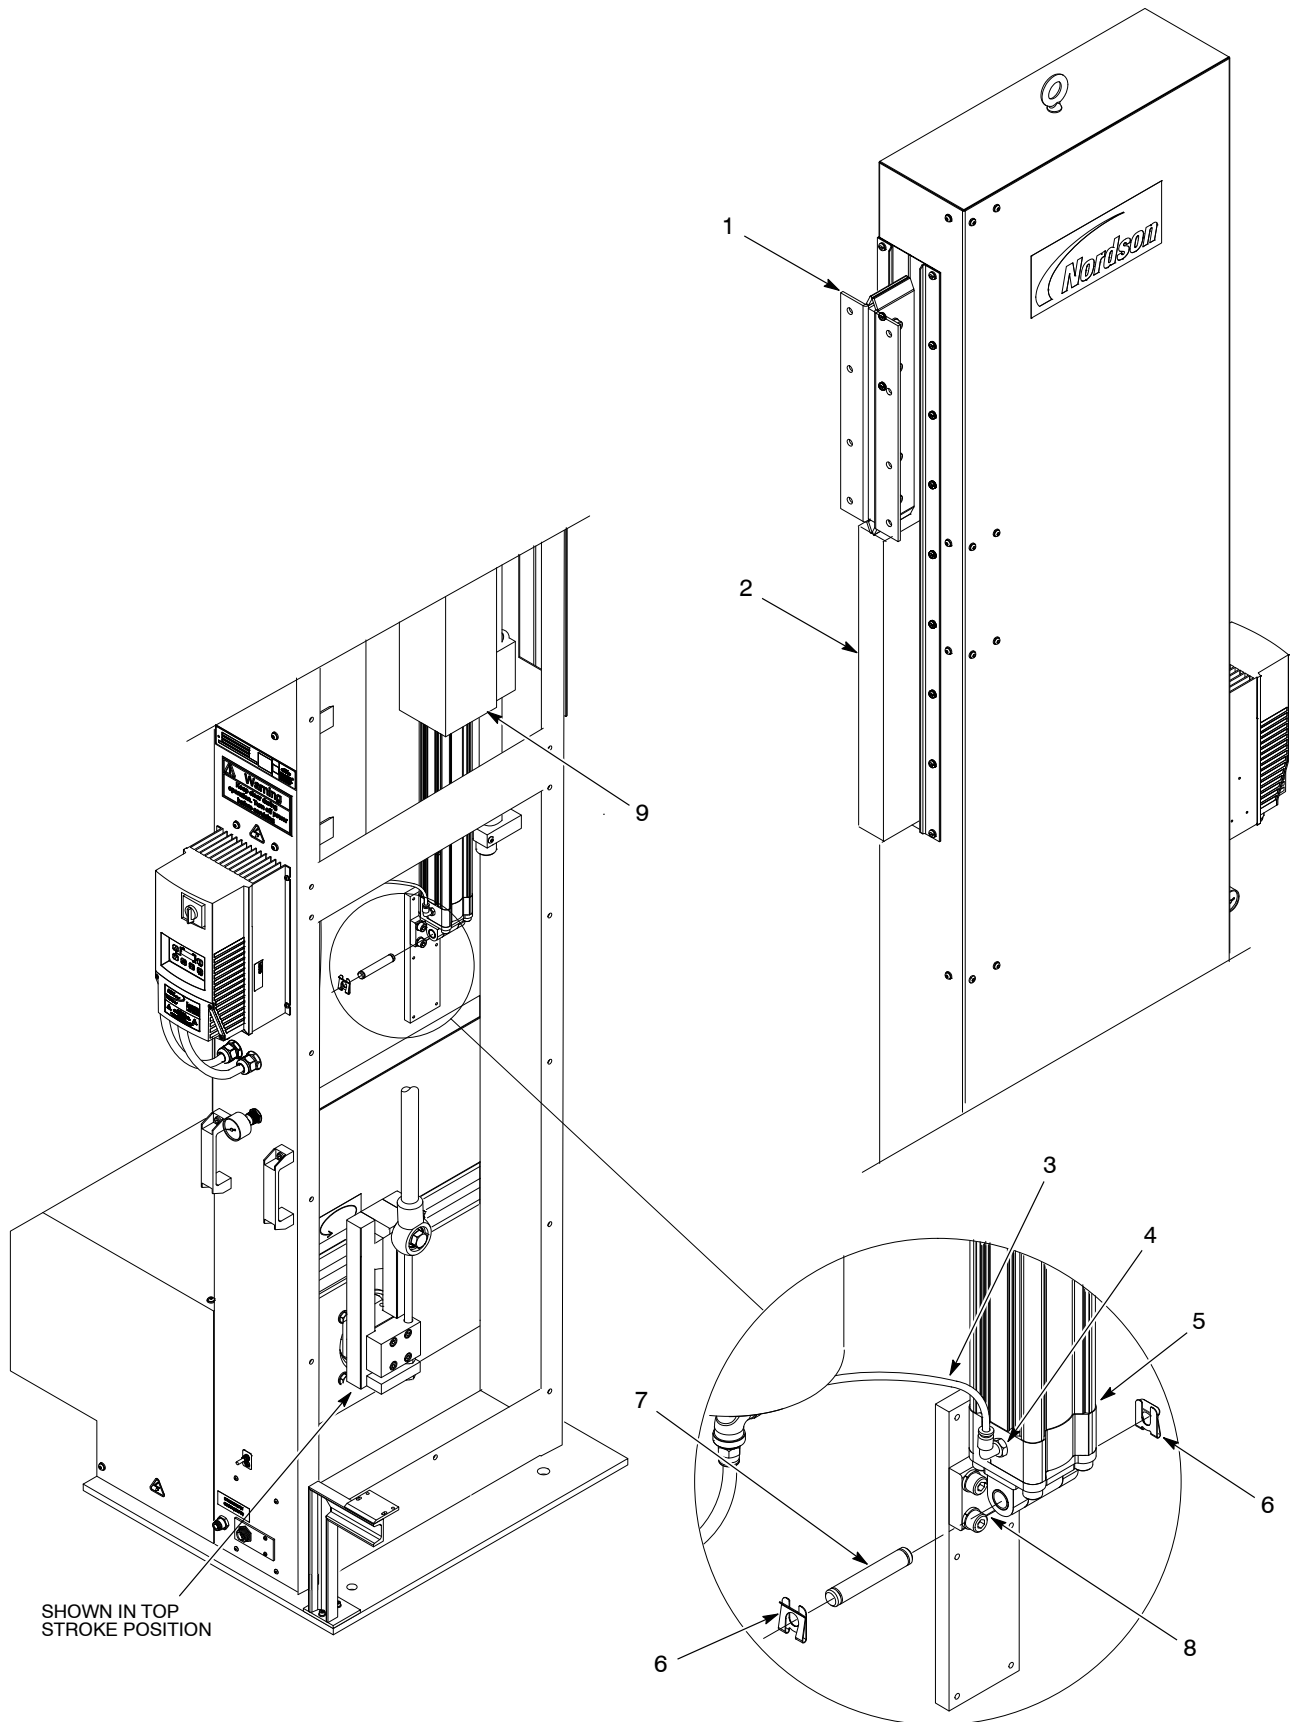

Figure 15 Removing the Air Cylinder
1. See Figure 15. Remove the guns and mounting hardware from the carriage mounting bracket (1).
2. Move the gun carriage (1) to the top stroke position. Use a block (2) as shown to secure the gun carriage (1).
4. Disconnect the air line (3) from the air cylinder fitting (4).
5. Remove the clips (6) and pin (7) securing the air cylinder (5) the bracket (8). Remove the air cylinder from the bearing assembly mounting tube (9).
6. Move the gun carriage (1) to the bottom stroke position by carefully removing the block (2).